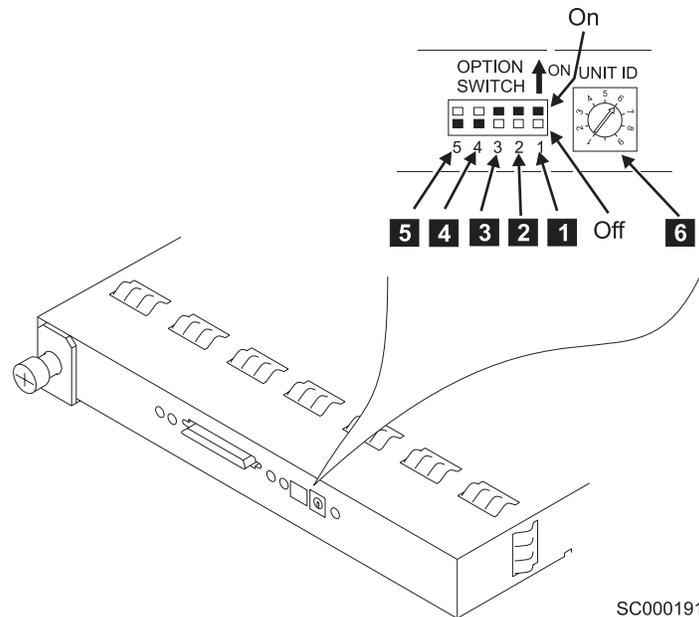
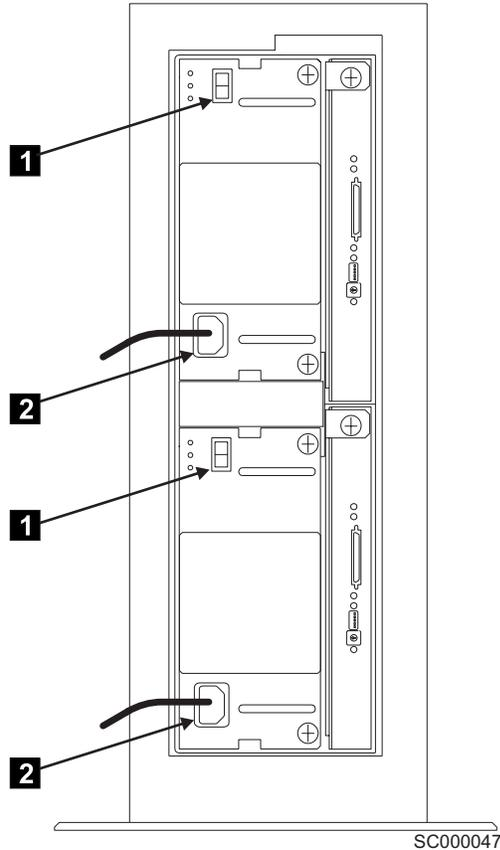

Figure 22. Setting the option switches
Figure 29. Connecting power cables
- Figure 22 shows the option switches. When the drive autostart switch-1 **1** is set to off, and the drive autostart switch-2 **2** is set to on, the disk drive motors do not start until you issue a **START MOTOR** command. The timing sequence of the disk motor startup is under the control of the host system software.
1. Ensure that the dc on/standby switch **1** on each fan-and-power-supply assembly is set to standby. See Figure 29.
5. Switch on the dc on/standby switch **1** on each fan-and-power-supply assembly. If option switch **5** (see Figure 22 on page 11) is on, the green dc power light **3** comes on. See Figure 29. If option switch **5** (see Figure 22 on page 11) is off, the green dc power light (see Figure 29) stays off. It will come on when the 2104 Model TS4 is connected to the host system.